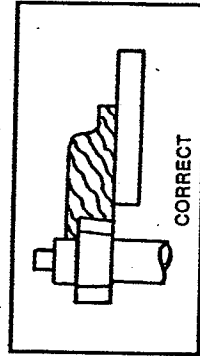
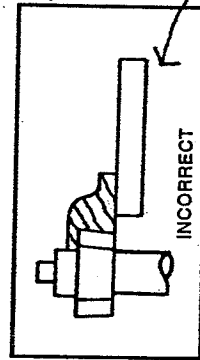

Fig. 3
Fig. 4
8. **WHEN SHAPING**, the work must be fairly heavy in proportion to the cut being made as shown in Fig. 3. **UNDER NO CIRCUMSTANCE** should short work of light body be shaped as shown in Fig. 4.